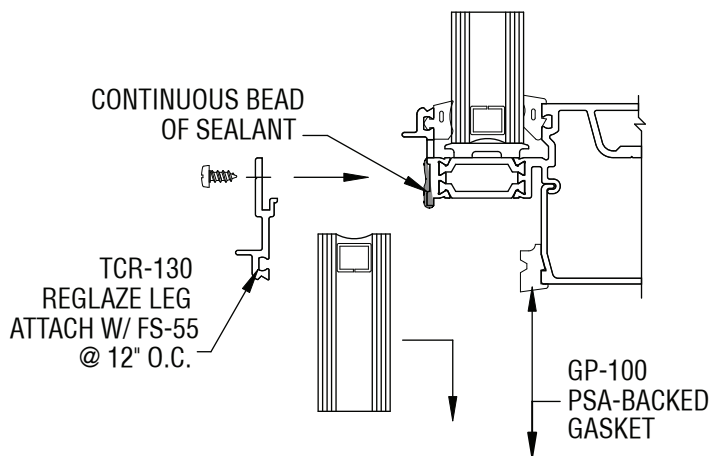

Figure 35
- D.2.4 Install TCR-130 reglaze leg. Set in continuous bead of sealant and attach with FS-55 fastener @ 12" O.C., cap seal all fasteners. **See FIGURES 35 & 36.**